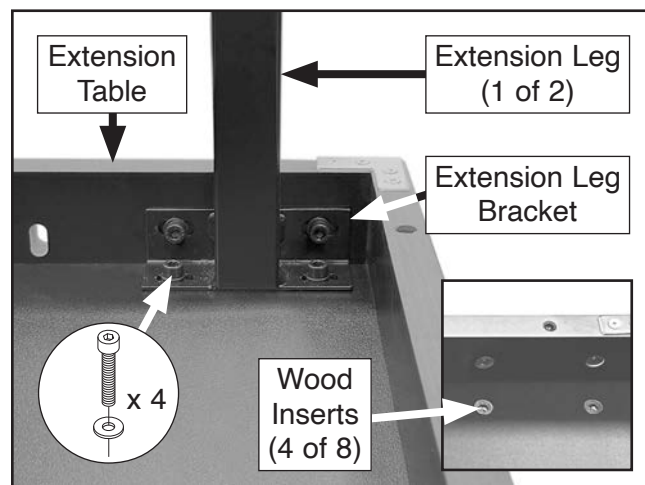

Figure 24. Extension leg attached to bottom of extension table.
9. Align holes in each extension leg bracket with wood inserts on right and left sides of extension table, then secure each leg with (4) M6-1 x 14 cap screws and 6mm flat washers, as shown in **Figure 24**.